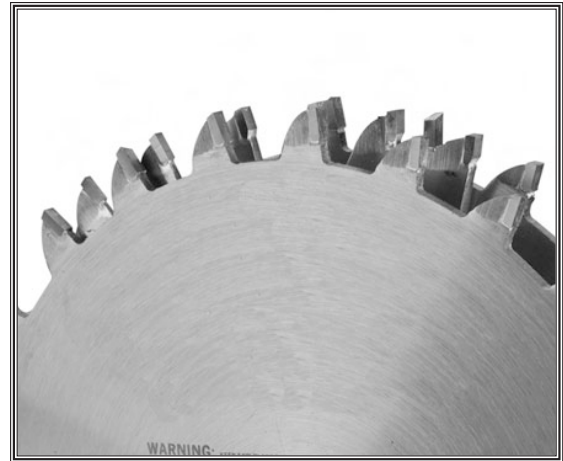

Figure 43. Stacked dado blade.
Dado Blades (see Figure 43):
- Stacked Dado Blade:** These dedicated dado cutting blade sets consist of up to 8 individual blades. Multiple cutters are "stacked" between two outside blades. The width of the dado is determined by the combination of cutters that are "stacked" together. The dado is cut in a single pass leaving a smooth and square channel in the face of the workpiece. Stacked dado blades are the most expensive option, but are worth considering if your projects require a lot of visible dado cuts. A stacked dado blade is shown in Figure 43.